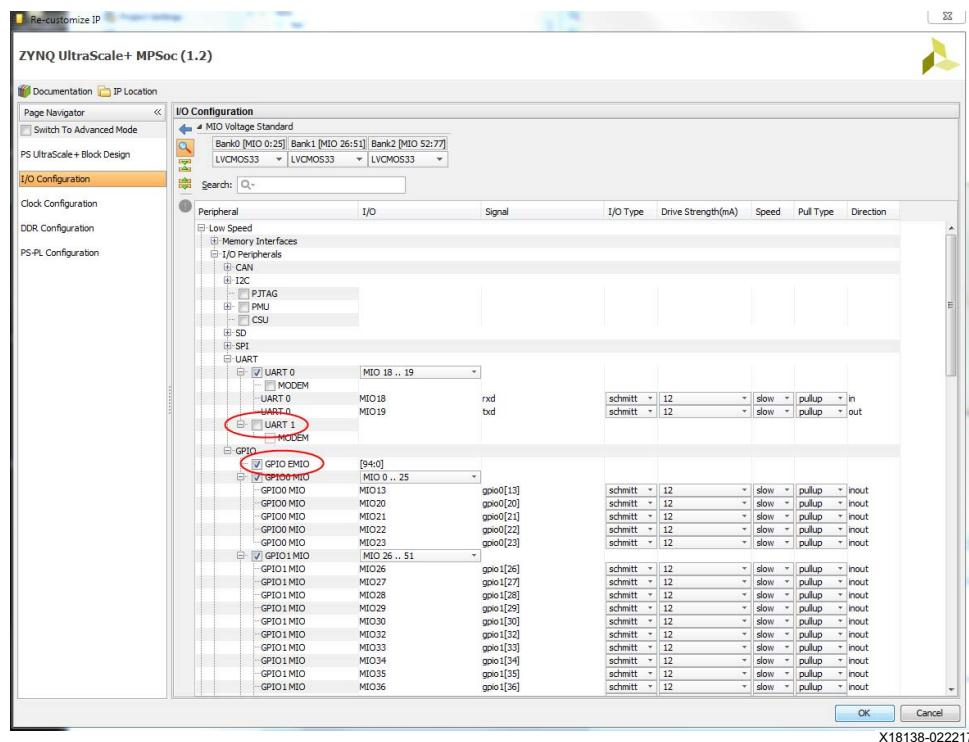

Figure 20: Design 2 - Enable EMIO GPIO
- Configure the Zynq UltraScale+ MPSoC block to enable EMIO GPIO. Deselect **UART 1**. Click **OK**. See Figure 20.